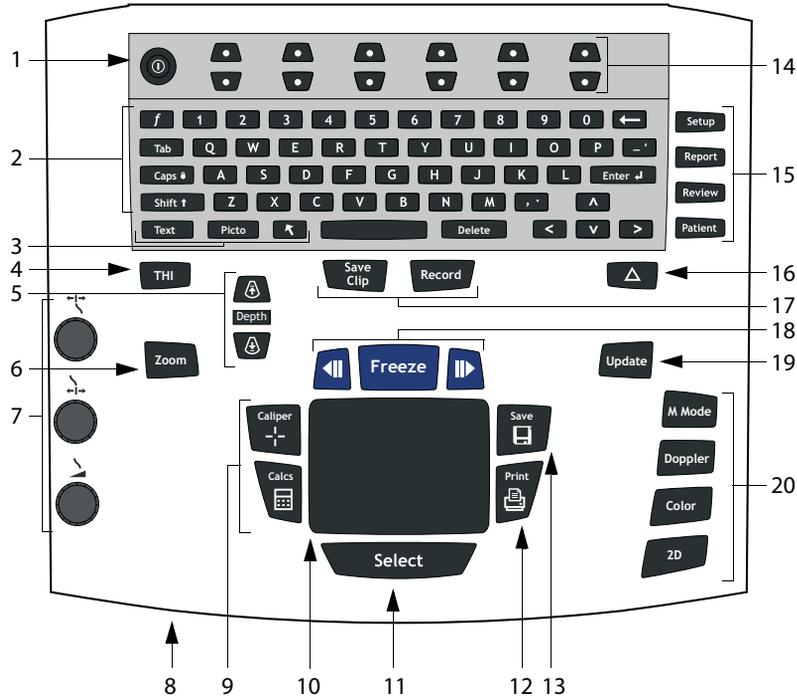

Figure 3 System Controls
- 1 Locate the **Power** key on the top left side of the system. See Figure 3 on page 14.